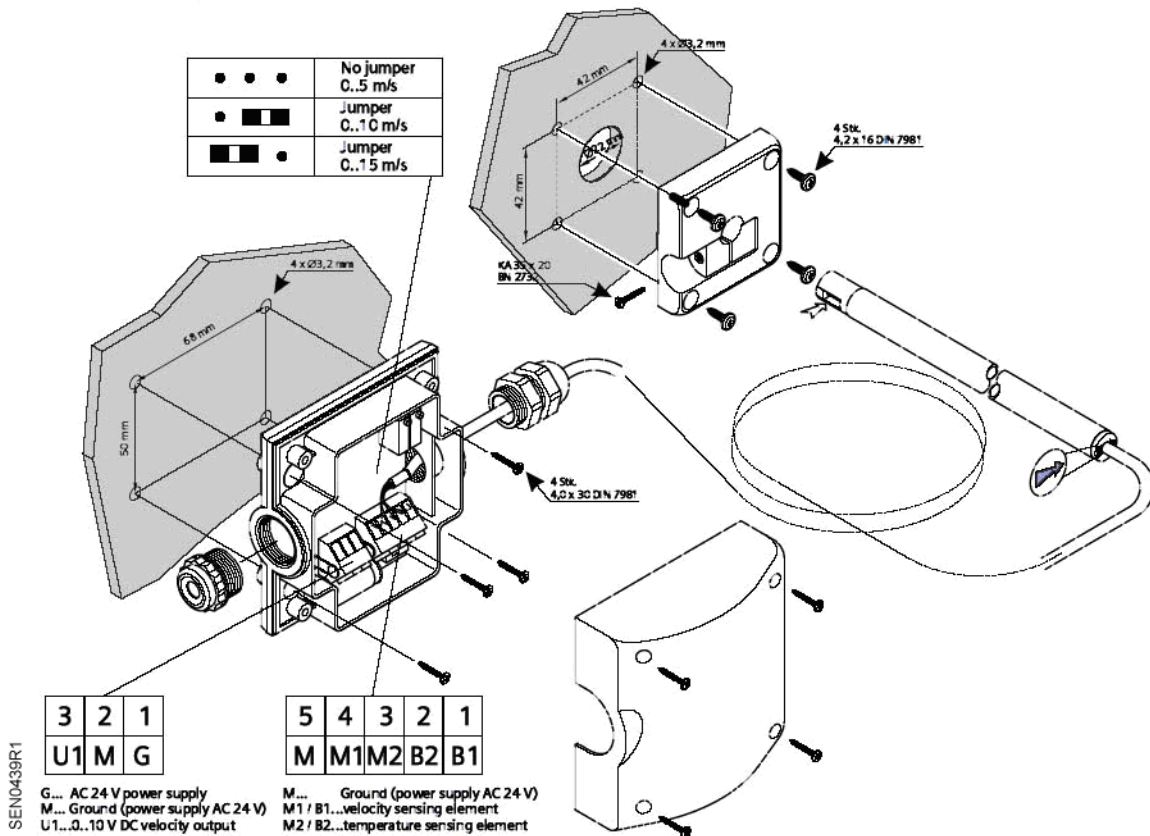

Figure 4.
9. Tighten the mounting screw located on the side of the mounting flange (see Figure 4).